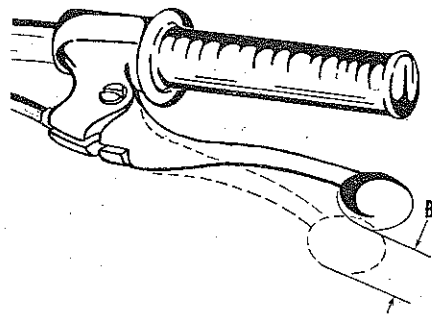

Fig. TM1-11—The clutch hand lever should have 1/16-in. play at B.
**CLUTCH.** The clutch, located on the left end of the transmission input shaft, is of the multiple disc wet type. Adjustment is accomplished as follows. Disconnect the cable from the hand lever, loosen locknut (15—Fig. TM1-10) and turn screw (16) in until resistance is felt (clutch lever on engine right side contacts side cover). Back screw (16) out 1/2-turn and tighten locknut. Attach cable and turn cable adjuster to provide 1/16-in. (1.5mm) free play at hand lever (B—Fig. TM1-11).